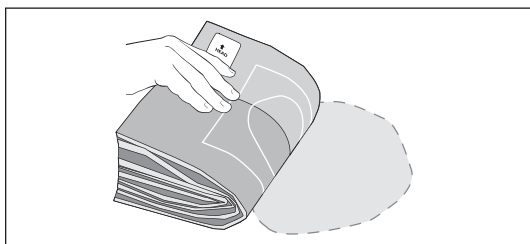

Figure 11
- Position fenestration over intended insertion site (refer to Figure 11).